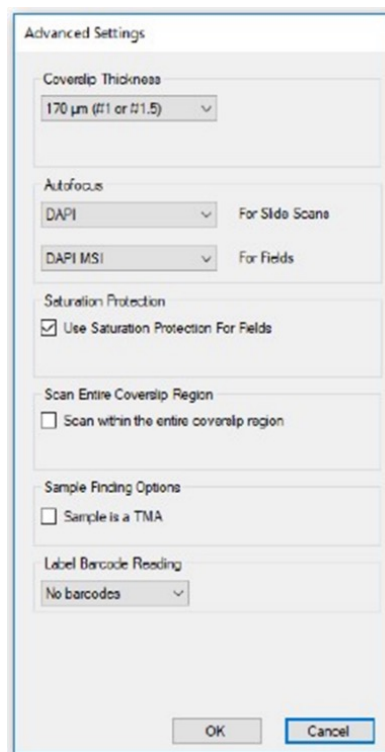

Figure 4.37. Fluorescence—Advanced Settings.
- If a combination of 1D and 2D barcodes is used, select All barcodes (autodetect type). This option will increase scan time and file size and should only be used if necessary. (See Figure 4.37.)